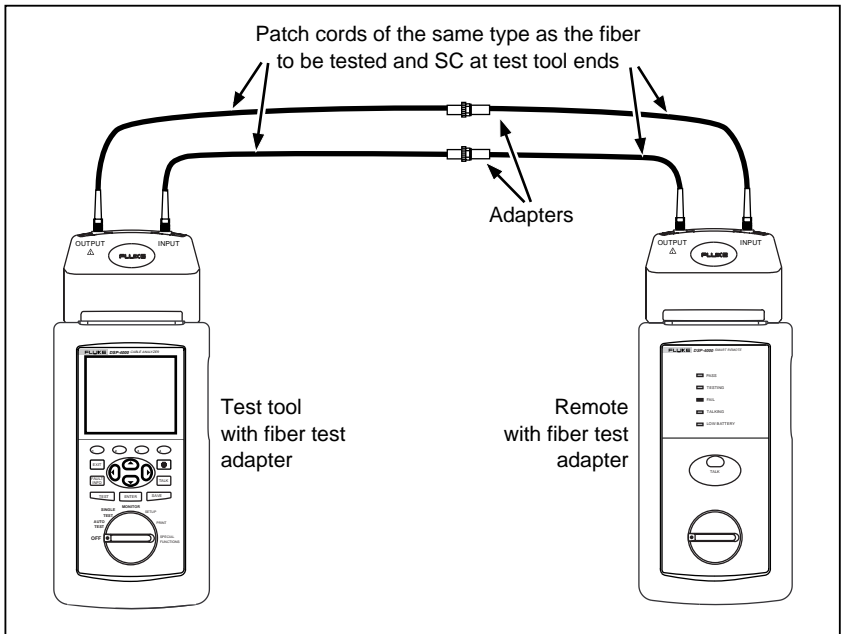

Figure 4. Connections for a Self Test
2. Connect as shown in Figure 4.